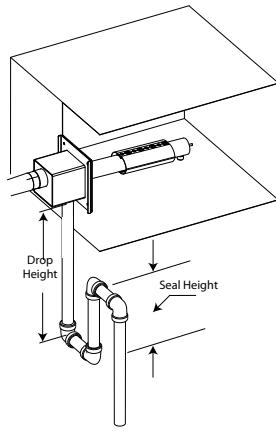

Fig. 3.b
**Note:** The fittings and pipe for the condensate drain shown in Fig.3.a and 3.b are not included with the ultimateSAM distributor.